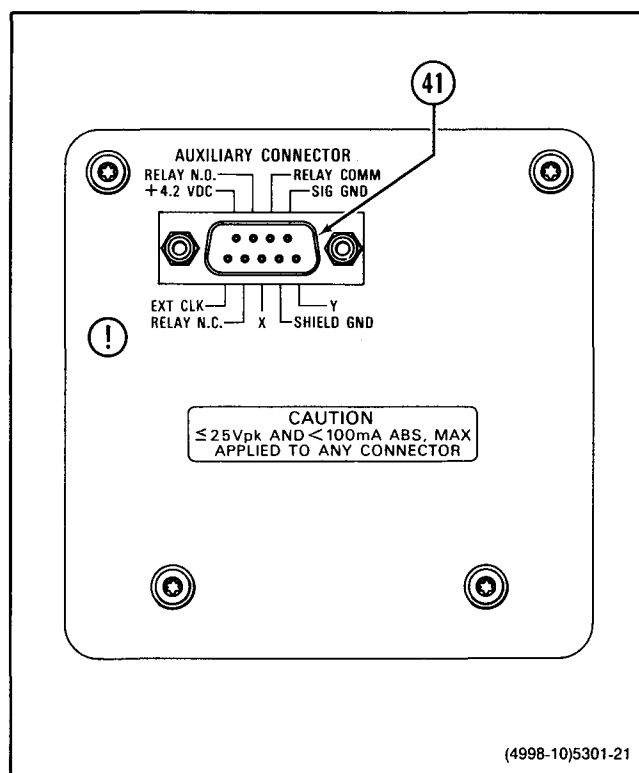

Figure 2-10. Left Side Panel.
The standard side panel includes one AUXILIARY CONNECTOR. Refer to Figure 2-10 for the location of item 41.